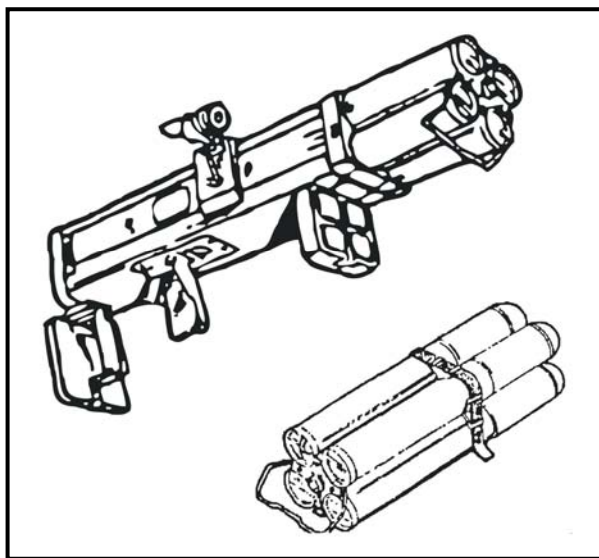

Figure 7-11. M202A1 Flash, 66-mm rocket launcher with M74 rocket clip.
(1) **M202A1 Flash Rocket Launcher.** The M202A1 Flash is a lightweight, individual rocket launcher aimed and fired from the right shoulder using either the standing, the kneeling, or the prone positions. The launcher is loaded with a clip (M74), which contains four 66-mm rockets. It can fire one to four rockets semi-automatically at a rate of one rocket per second and can be reloaded with a new clip (Figure 7-11). The M202A1 can deliver area fire out to 500 meters. During urban combat, the range to targets is normally much less. Point targets, such as an alleyway or bunker, can usually be hit from 200 meters. Precision fire against a bunker aperture is possible at 50 meters.